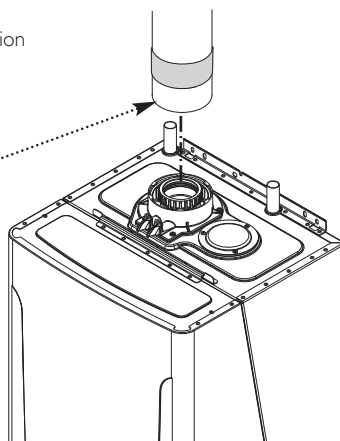

Fig. 39
17. Engage the extension into the adaptor up to this position (Fig. 39). Once the installation of the flue is complete and all support brackets are securely in place remove the tape.